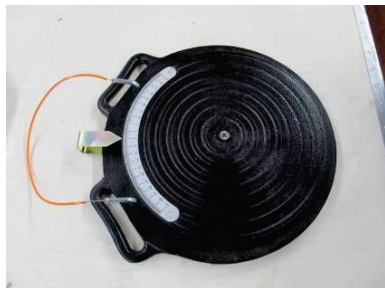

Fig. 4-2 Pylon
- C. Regularly lubricate the screw rod and sliding bar to ensure the flexibility. (Fig. 4-2);